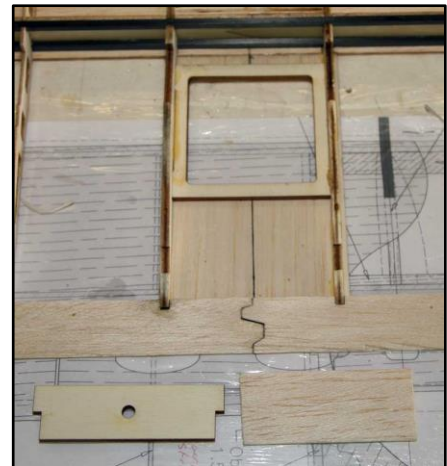

Figure 24: Wing Hold-Down Parts w/o Spoiler Box
27. As with the center section, use two of the thin triangular wedges (Fig. 24) to support the carbon fiber rod. Glue one on top and one on the bottom of the rod.